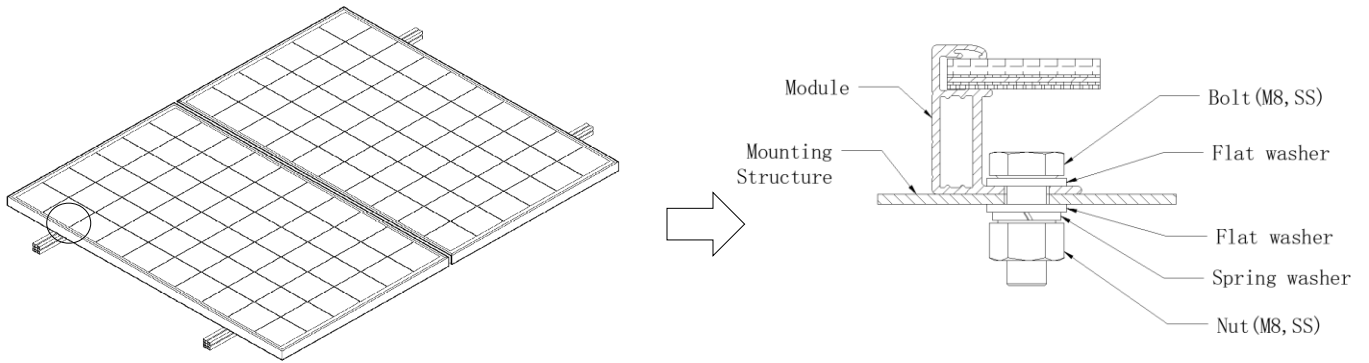

Figure 3 Bolt hole installation
- ◇ **Bolt hole installation:** Use anti-corrosion bolts to secure with the mounting brackets through the mounting holes on the assembly frame, as shown in Figure 3;